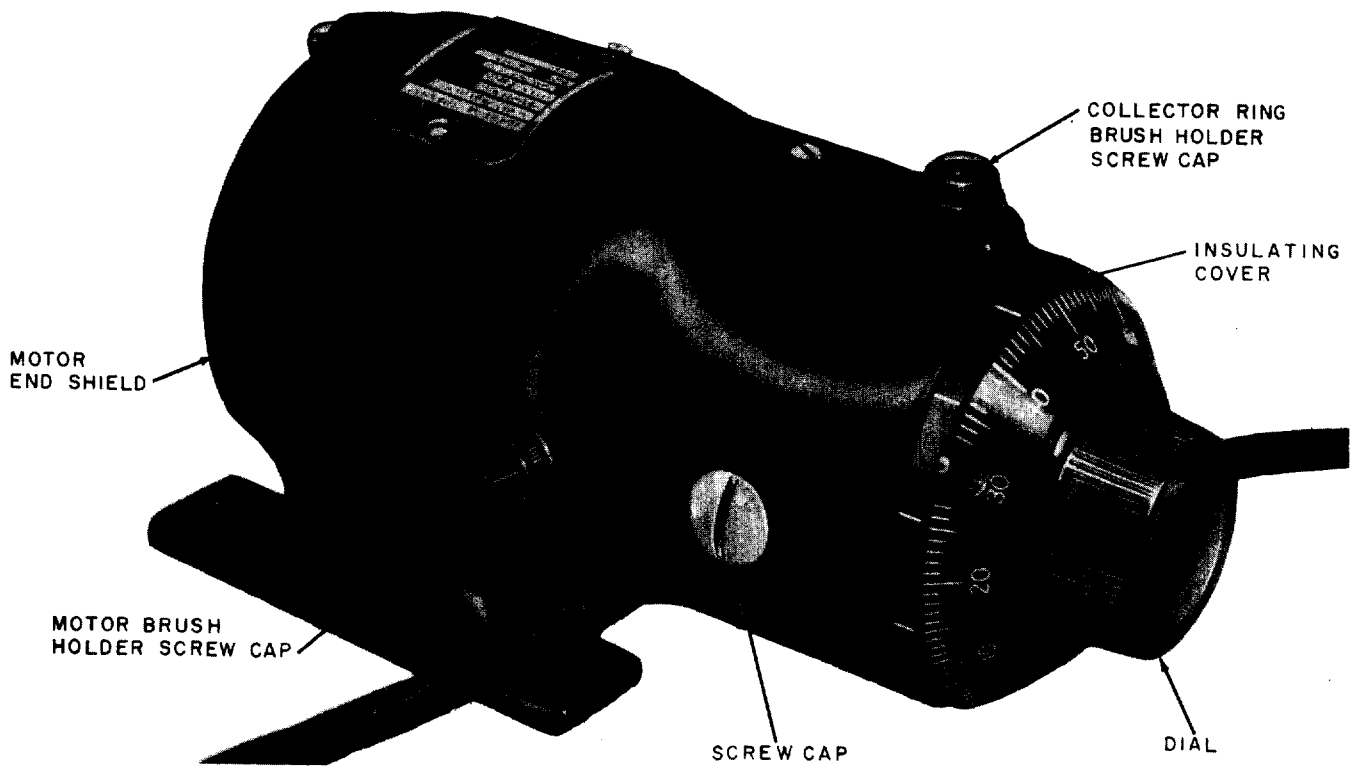

Fig. 1—Voltage Regulator
1.01 This section covers centrifugal-type automatic voltage regulators with separately excited dc motors, KS-5293, KS-5293-01, and KS-5376-01, L1 and L2, and with permanent-magnet type direct current motors KS-5293-02 and KS-5376-01, other than L1 and L2. (Fig. 1)